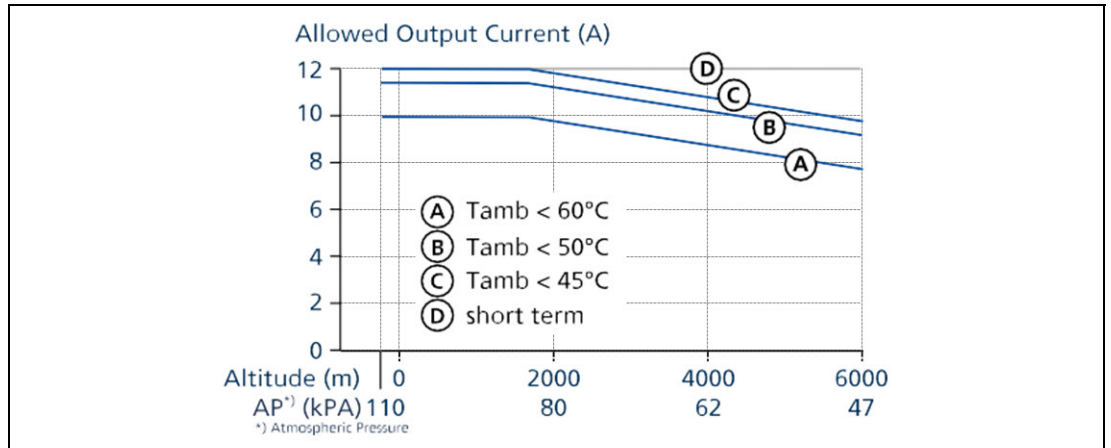

Figure 19.2 Output current vs. altitude
0.63A/1000m or 5°C/1000m	For altitudes >2000m (6560ft), see Figure 19.2
0.38A/-5kPa or 3°C/-5kPa	For atmospheric pressures <80kPa, see Figure 19.2